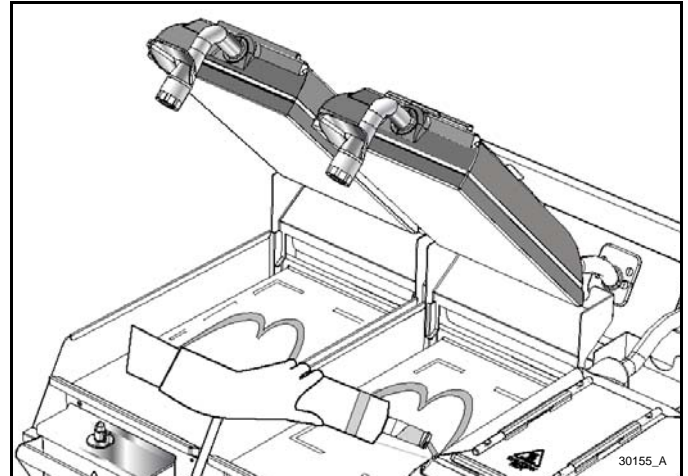

Figure-153
23. Beginning on the left lower plate, pour the dosed 1/2 oz. of grill cleaner from left to right in the shape of an arch pattern M. Repeat for each lower plate until all of them are fully covered. See Figure-153.